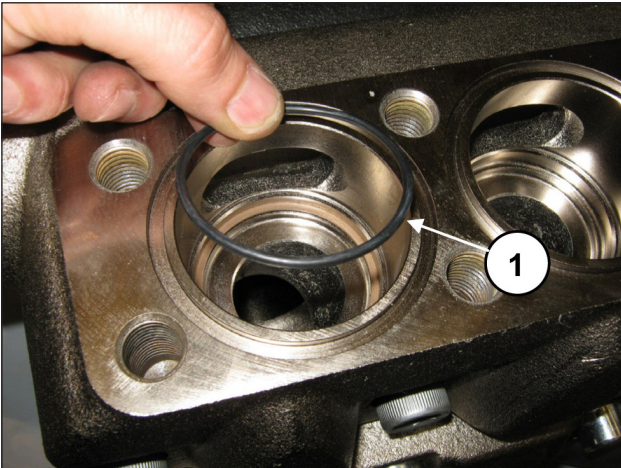

Fig. 155
Insert the O-ring, exploded view pos. 24 (pos. ①, Fig. 155).